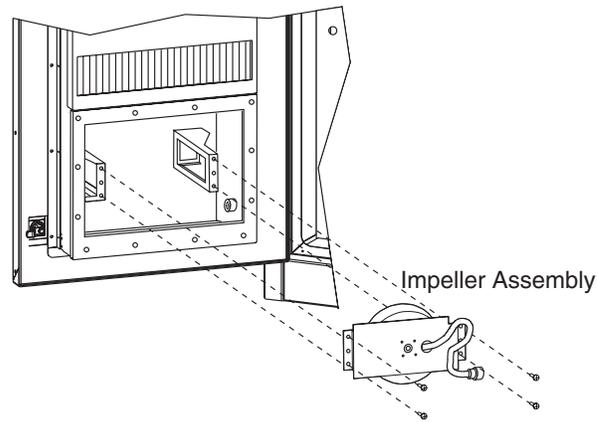

Figure 8-5: Removing the Ambient Impeller Assembly
5. Remove the impeller assembly by removing the 4 mounting screws from the impeller mounting plate. See Figure 8-5.